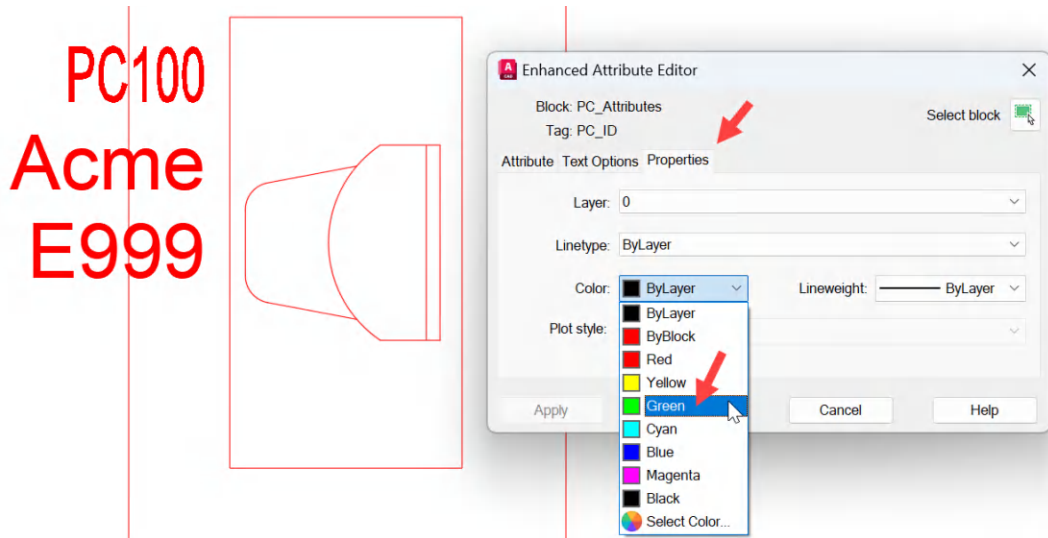

Figure 10.19: The Properties tab with the changes required shown
5. Select the **Properties** tab. Using the **Color** drop-down menu, change the color to **Green**, as shown in *Figure 10.19*. As before, click on **Apply** to see the change in the attribute.